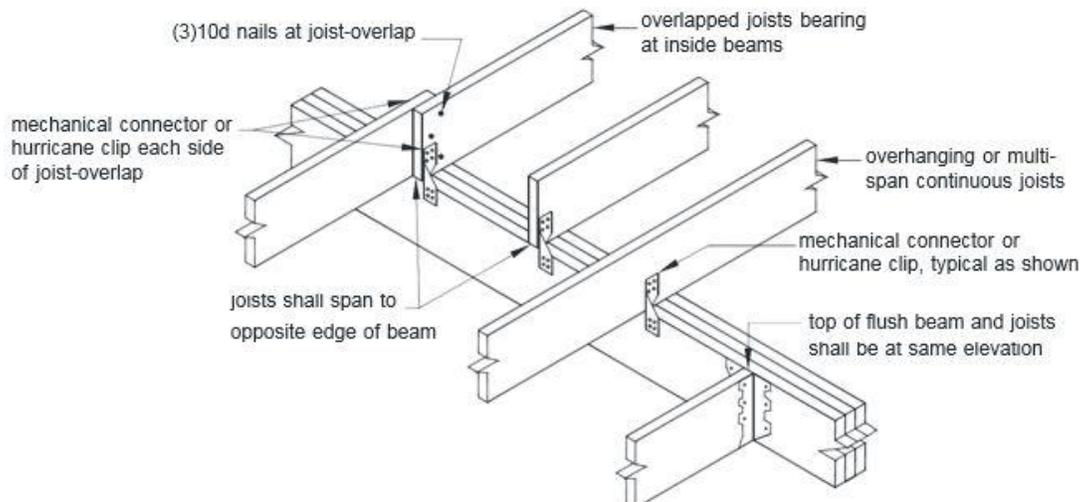

FIGURE 10: JOIST-TO-BEAM CONNECTION
- Each joist shall be attached to the beam in accordance with Table R602.3(1) which states (3) 8d (2 ½" x 0.113") nails or mechanical connectors shown in FIGURE 10.